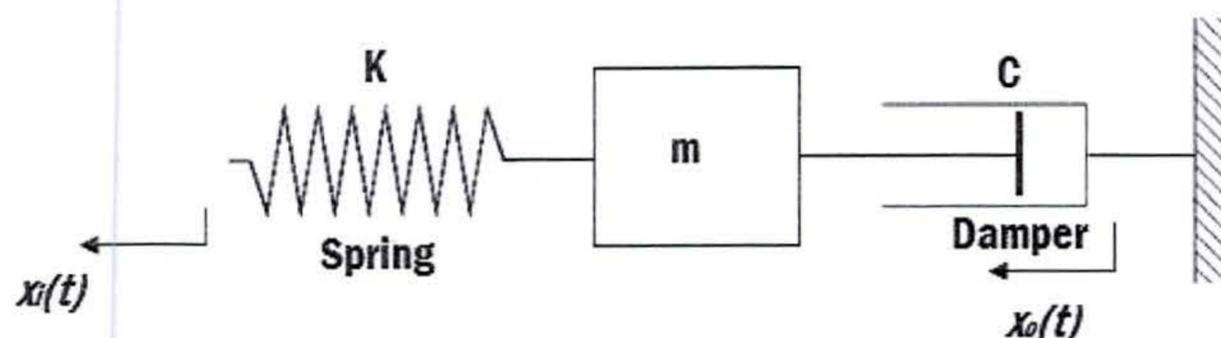

Figure Q4.1 Spring, Mass, Damper System.
- c) Figure Q4.1 shows a spring-mass-damper system.
- (i) Find the differential equation relating the displacements  $x_i(t)$  and  $x_o(t)$  for the spring-mass-damper system shown in FigQ4.1. **[5 Marks]**